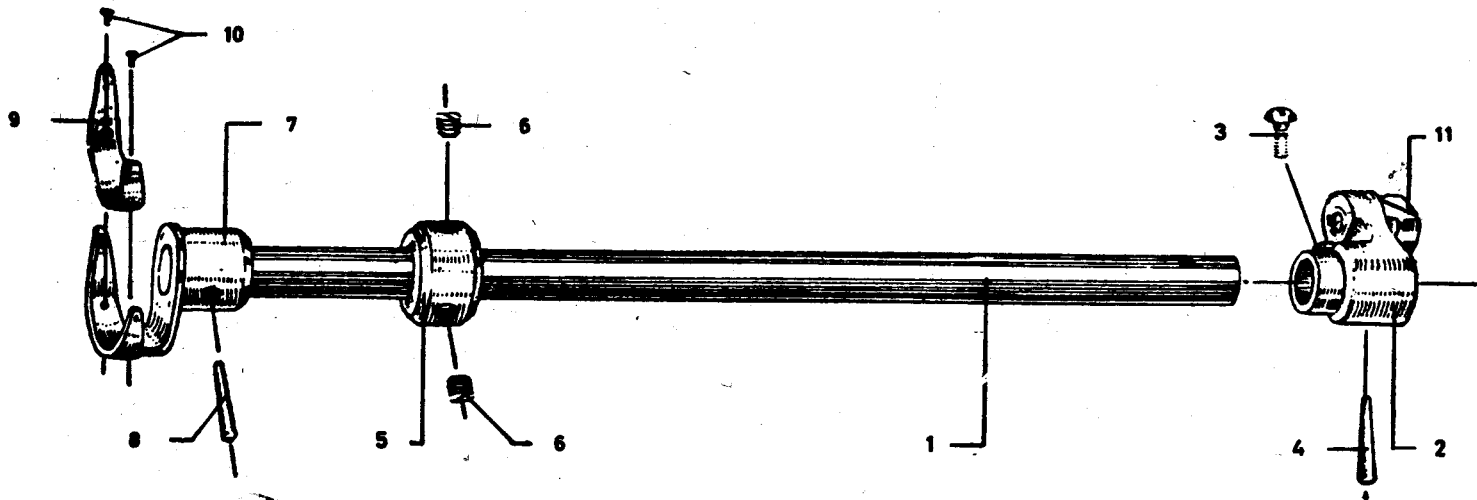

FIG. 11 SHUTTLE DRIVER ASSEMBLY
**2.11 Shuttle Driver Assembly — See Fig. 11.**